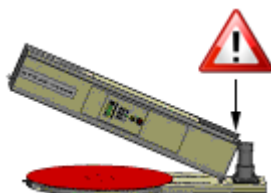

Fig. 2-5a
Step 3 - Lift the mast using hoisting tools. A tow motor or hoist rated for at least 3,000lbs is required. While lifting the mast, use caution to ensure that wires and connectors are not pinched. (See Fig. 2-5a)